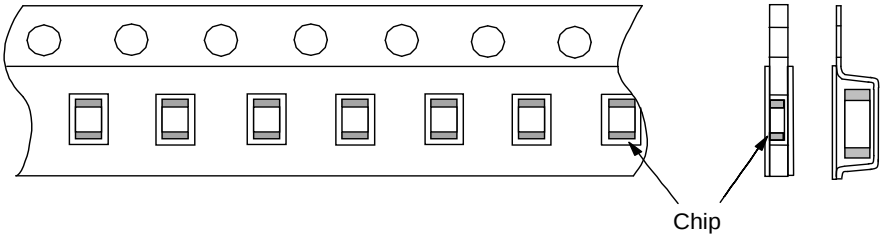

Fig.2 Dimensions of Reel
| 18                 | Board Flex                              | Appearance                                                                                                                  | No marking defects | <p>Solder the capacitor on the test substrate(glass epoxy board) shown in Fig1.</p> <p>Then apply a force in the direction shown in Fig 2 for 60s.</p> <p>The soldering should be done by the reflow method and should be conducted with care so that the soldering is uniform and free of defects such as heat shock.</p> <table><tr><td>Type</td><td>a</td><td>b</td><td>c</td></tr><tr><td>GCE18</td><td>0.6</td><td>2.2</td><td>0.9</td></tr><tr><td>GCE21</td><td>0.8</td><td>3.0</td><td>1.3</td></tr></table> <p>(in mm)</p>  <p>Fig.</p>  <p>Fig.2</p> | Type | a               | b | c                   | GCE18 | 0.6                      | 2.2 | 0.9                 | GCE21 | 0.8                      | 3.0 | 1.3                 |
1.11 Reel is made by resin and appeaser and dimension is shown in Fig 2. There are possibly to change the material and dimension due to some impairment.